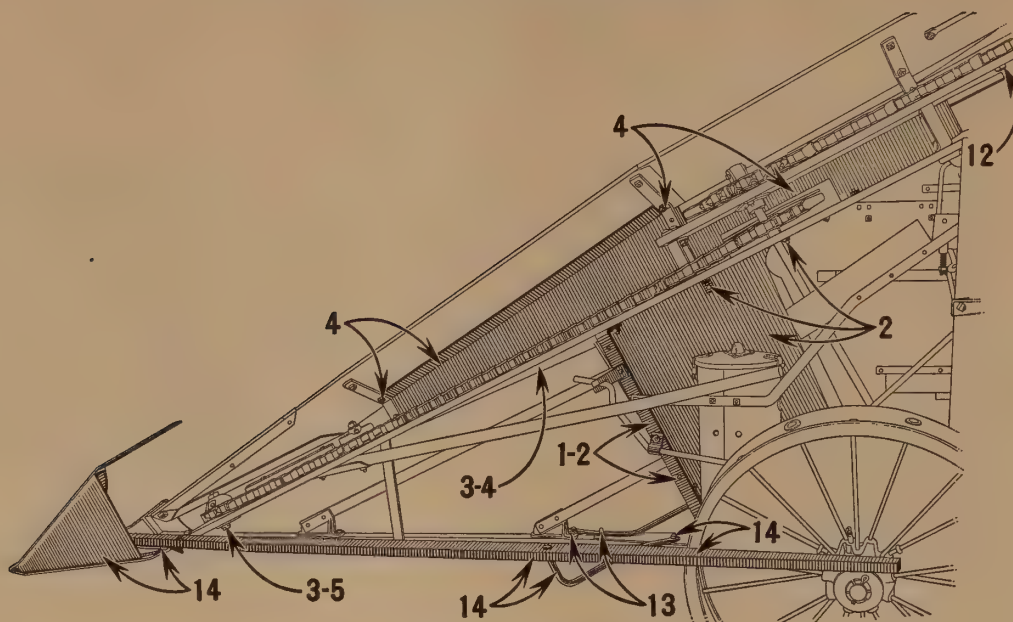

Fig. 54
1. (Fig. 54.) Remove and discard Middle Support for L. H. Gatherer Board and replace with special support.
2. (Fig. 54.) Insert Binder deck extension, **front**, between gatherers and attach to **inside** of Binder Deck and Middle Support mentioned under Instruction No. 1—Metal clip goes **between** Gatherer Board and Deck—Bracket bolts to Gatherer Board. Bolt front end of deck extension to Middle Support.
3. (Fig. 54.) Remove tension from L. H. Gatherer Chain, then remove Chain Guide Board.
*4. (Fig. 54.) Attach upper and lower Shields between L. H. Gatherer Chain Board and Top Board, **at same time** replacing Chain Guide Board—Lower shield overlaps upper shield. Tighten Bolts.
5. (Fig. 54.) Adjust tension of L. H. Gatherer Chain.
12. (Figs. 54 and 55.) Move R. H. and L. H. Gatherer Top Chains **in towards** throat of machine as far as possible, to obtain better delivery of Tops to binder attachment.
13. (Fig. 54.) Bolt Rod Throat Spring for Butt Chain at rear bolt for Rear Throat Spring Bracket on L. H. Gatherer Angle. Replace **front** bolt in side knife with hook bolt to hold rod throat spring in position.
14. (Fig. 54.) Bolt L. H. Gatherer Extension Point and Fender Stick to Gatherer Point—H91H—Brace for Fender Stick bolts at Rear hole in Side Knife.